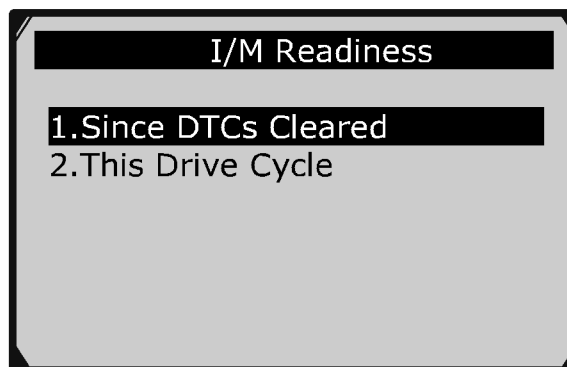

Figure 6.20
- 3) If the vehicle supports both types of tests, then both types will be shown on the screen for selection. (Figure 6.20)